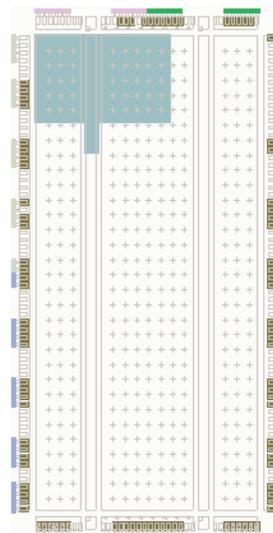

Figure 6: Viewing the Newly Created Area Group
7. When the left mouse button is released, the Area Group will appear with the selected color (Figure 6).
Notes: In Figure 6 the Area Group is not exactly the same shape as what was drawn. This is because the Tracking_Module contains a block RAM and so PACE automatically created two separate Ranges. One range covers the CLB logic and the other range covers the block RAMs. MAP and PAR will consider these two ranges as two separate AREA GROUPS, one for the slices and one for the block RAM.